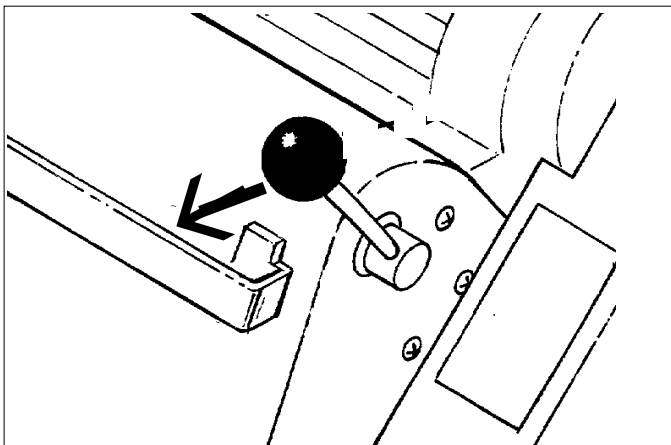

Figure 11
6. Rotate the release lever forward. (See Figure 11)